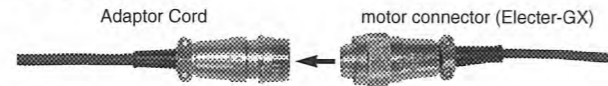

Fig.2
① Insert the motor connector (Electer-GX) to the adaptor cord, and fasten with the cord nut as shown in Fig.2